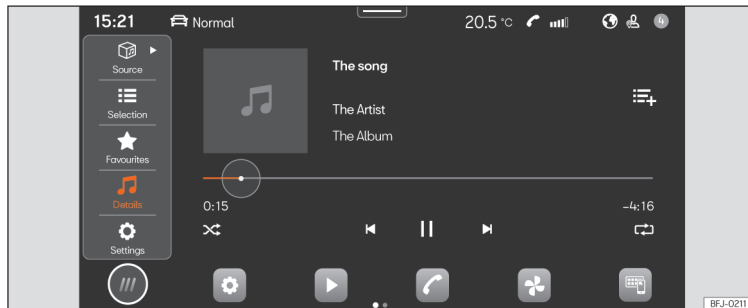

Fig. 138 Schematic diagram: Media view
- Press **HOME** > **▶ >>>** Fig. 138.